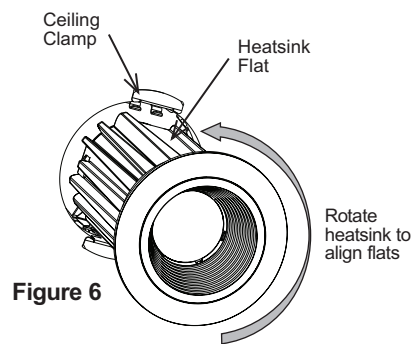

Figure 6
Step 8. Orient flats of heatsink to the ceiling clamps and slide module into mounting frame until secure (Fig. 6).